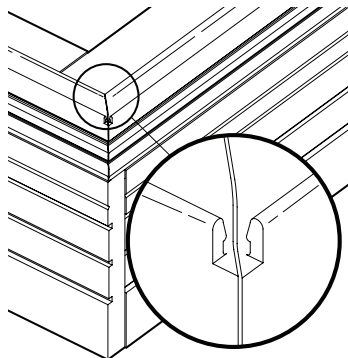

Figure 2
2. To make the notch use a sharp chisel to remove 1/8" of the accessory groove leg. (Figure 2)